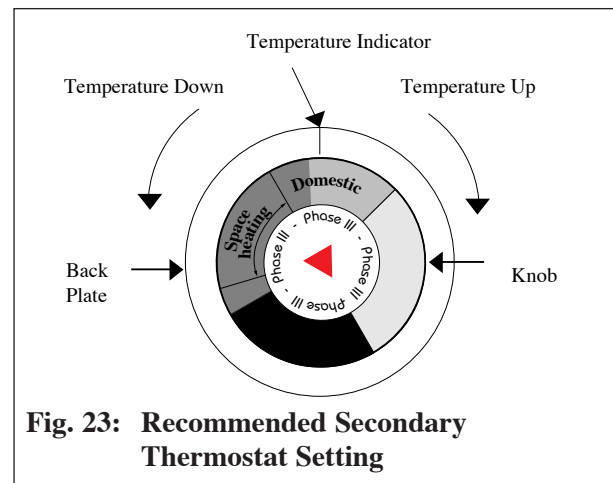

Fig. 23: Recommended Secondary Thermostat Setting
Studies have indicated that dangerous bacteria can form in the potable water distribution system if certain minimum water temperatures are not maintained. For prevention of this, it is recommended that the Secondary Thermostat be set as shown in Fig. 23 and maintained at 130°F to 140°F.
- Set the thermostat knob as shown in Fig. 23.